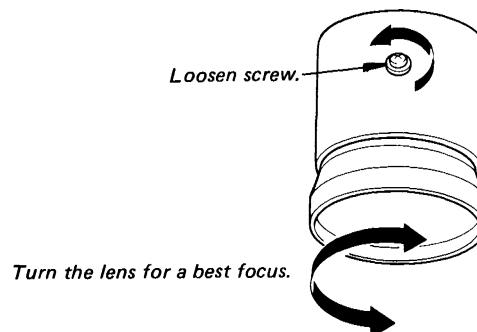

Fig. 3-3
- (1) Cover the red and blue lenses with caps or equivalents.
- (2) Loosen the screw on the green lens as shown in Fig. 3-3.